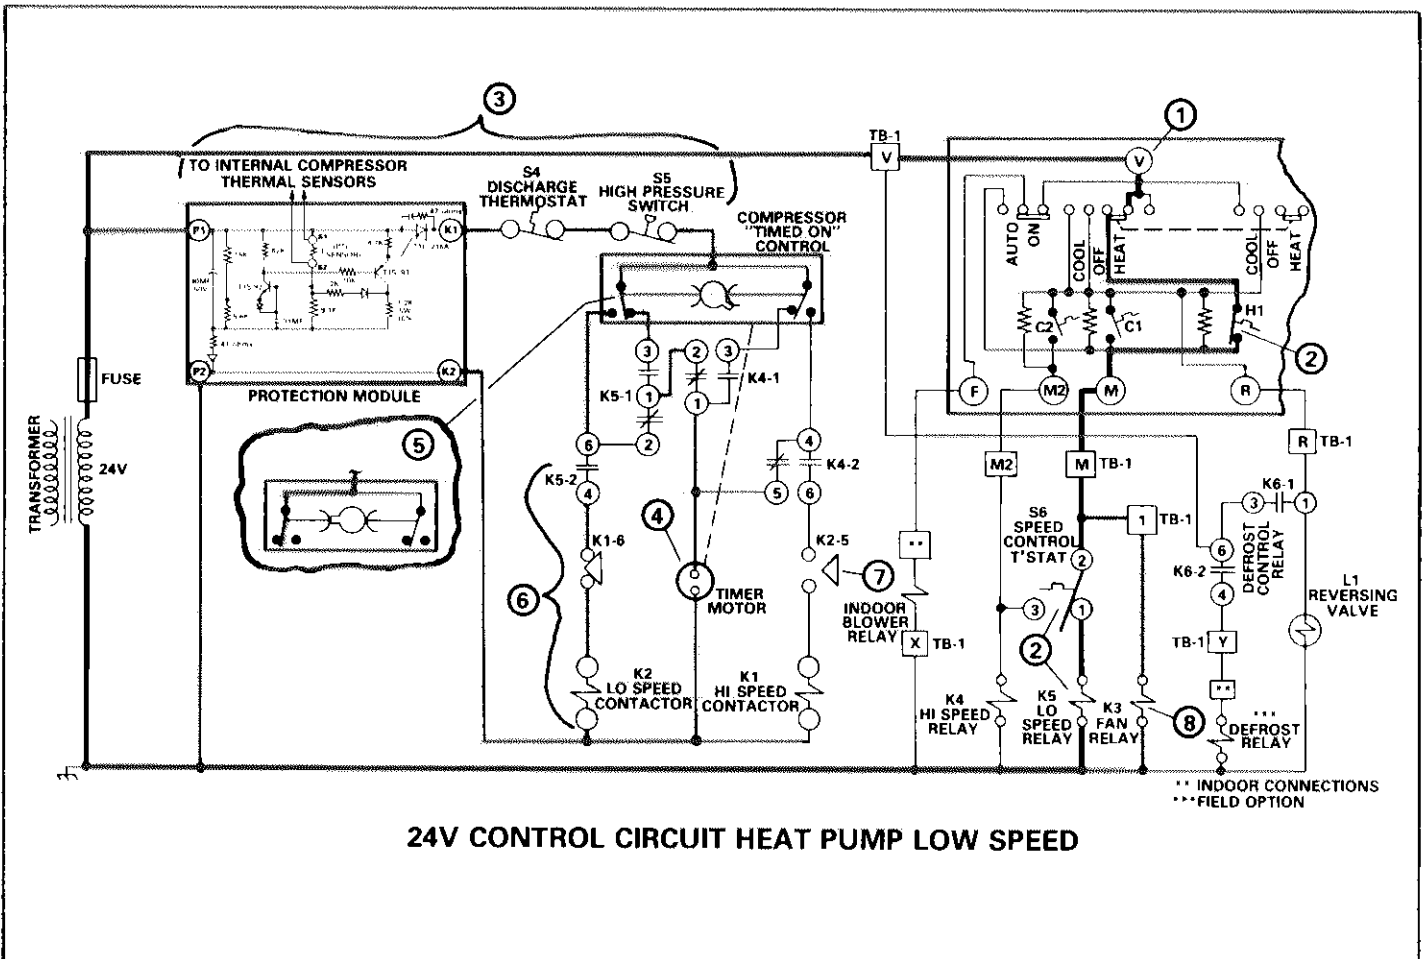

FIGURE 25
24V Control Circuit Heating Low Speed (Figure 25)
- 11 - As the ambient temperature rises above 50°F, S6 again switches position to power K5 and de-energize K4. The Compressor Timed-On Control runs through another cycle as explained in Figure 25.